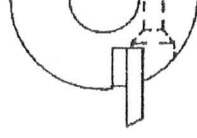

Fig. A-7
3. Lay the knife in the cutterhead slot on top of the jack screws, with the short side of the beveled edge on the same side as the jack screws (see fig. A-7).